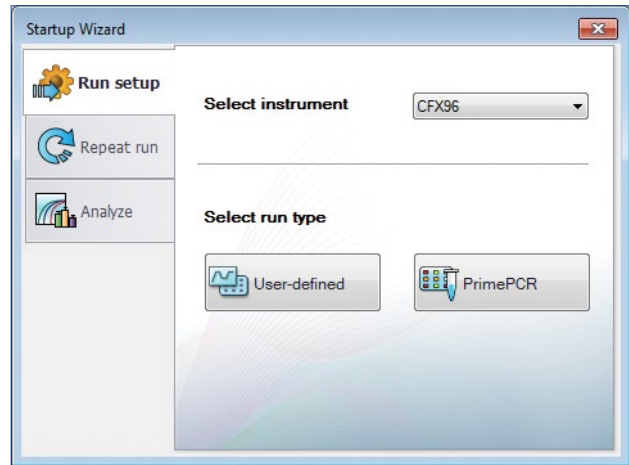

Fig. 4. Startup Wizard in CFX Maestro Software.
3. Select **User-defined** from the Run setup tab of the Startup Wizard (Figure 4) to launch the Run Setup window.